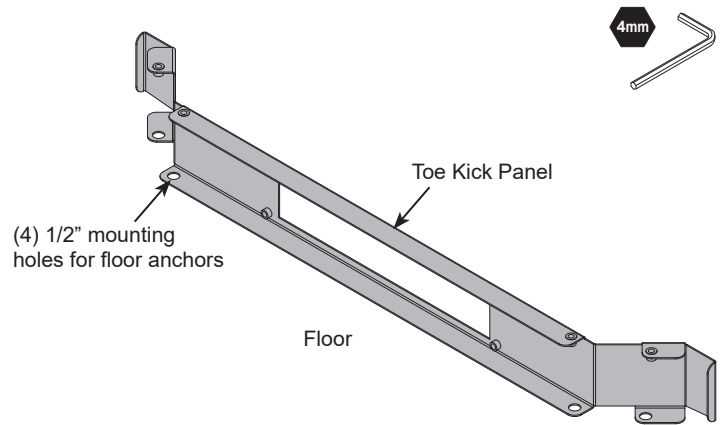

Figure 8.1
1. Position the toe kick panel on the floor in the preferred final lectern location. **Figure 8.1.**
2. Mark the (4) mounting hole locations onto the floor.